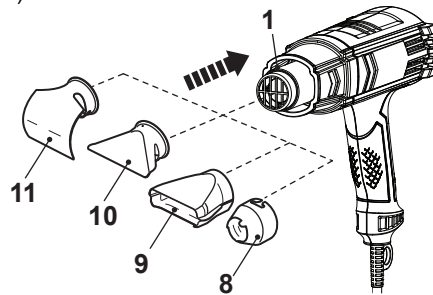

Fig. 2
- > Align the required nozzle (8 - 11) with the hot air outlet (1) and attach it. Ensure it fits properly (Fig. 2).